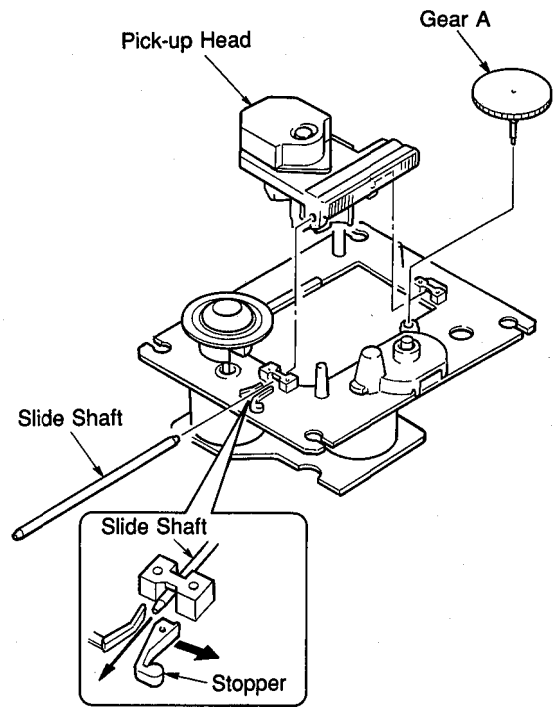

Fig. 4
- e. Remove the gear A in Fig. 4.
- f. Pull out the Slide Shaft in Fig.4.